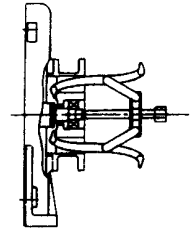

Fig.3
- (1) Remove the belt, and remove blower pulley ⑦. (See “12. Instruction for belt tension Adjusting and/or belt Replacing”)
- (2) Remove the bare blower from the base. Stand the blower on a stand with the inlet side up. (Be careful not to tip over the blower during the work.)
- (3) Remove bearing cover ③③.
- (4) Remove bearing nut ③① and bearing washer ③①.
- (5) Remove the screw holding bearing box ②⑧. Pull out both bearing ②⑨ and bearing box ②⑧ together. (Fig.3)
- (6) Pull off bearing ②⑨ from inlet side bearing box ②⑧. (Tapping bearing ②⑨ with a hammer-handle from backside will help for easy removal.) Pull off collar ②⑦ from shaft ①⑦.
- (7) Remove fan case fastening bolts ② as unfastening foot fastening nuts ③, and remove fan case (C) ②③ and foot ①.
- (8) Remove fan nut ②⑥ and fan washer ②⑤.
- (9) Remove fan ①⑨, deflector ②①, fan case (B) ②① through the last fan in this order.